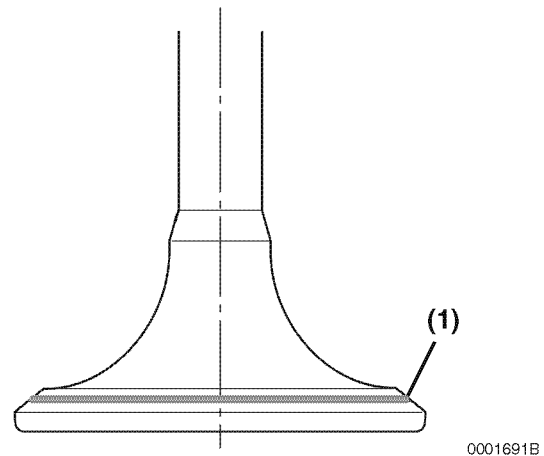

Figure 6-24
Coat the valve seat with a thin coat of bluing compound. Install the valve and rotate it to distribute bluing onto the valve face. The contact pattern should be approximately centered on the valve face (Figure 6-24, (1)) and even in width.